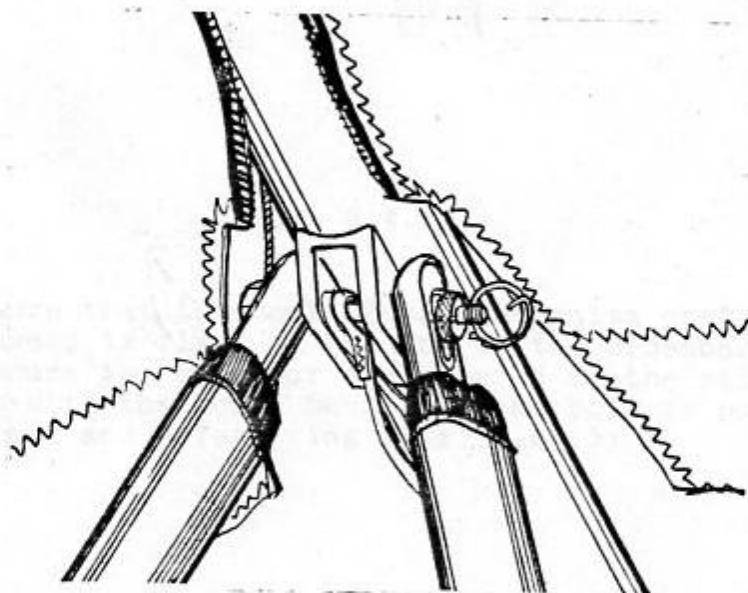

Fig. 3.4.11.
10. Check that the bolt, the castle nut and the safety ring which secure the dpwntubes to the channel are secured (Fig. 3.4.11).